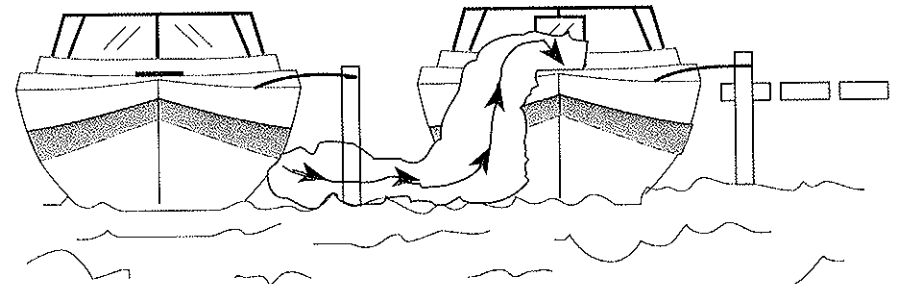

Figure 2.2 Exhaust Fumes from Vessel Alongside
**DANGER:** Generator or hull exhaust from other vessels alongside your boat, while docked or anchored, can emit carbon monoxide and cause excessive accumulation within the cabin and cockpit areas. Be alert for generator exhaust from other vessels alongside. See Figure 2.2.